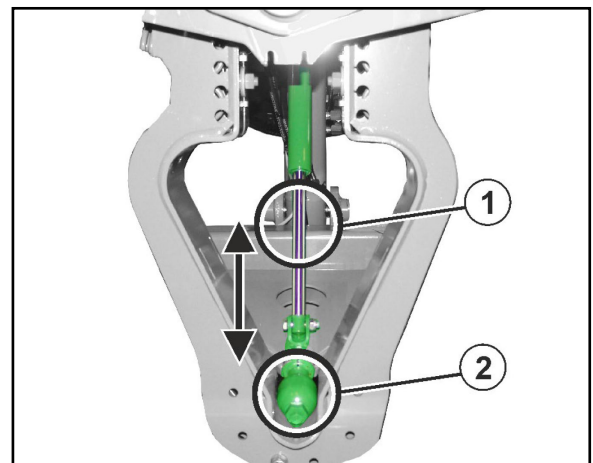

Fig. 64
Marking (1) in the red area (Fig. 64/2)